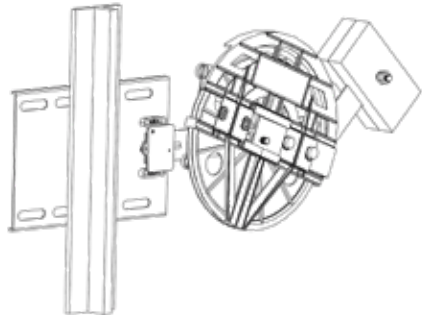

Fig. 18
3. Tension Pulley will be ready for using for right direction as shown at Fig. 18